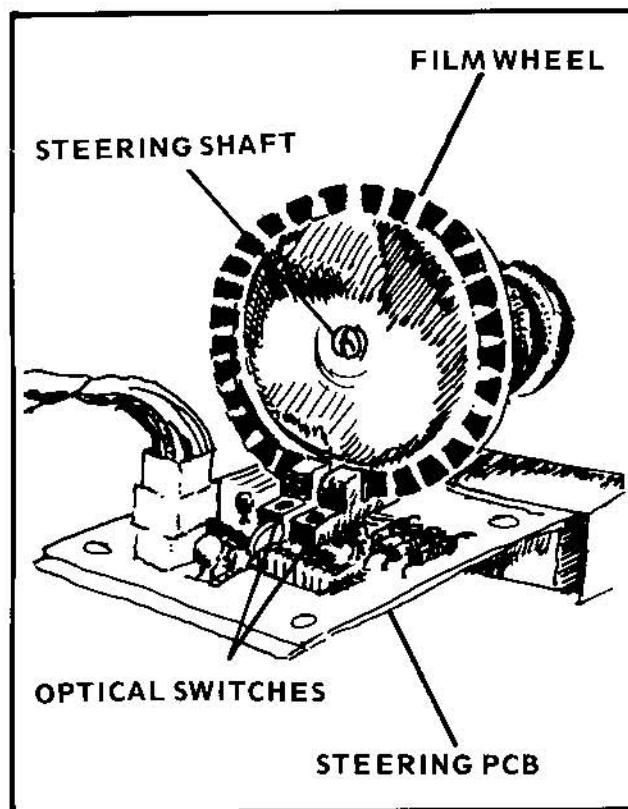

Figure 4-3 Steering Wheel Film Set-up and Adjustment
- If the steering wheel film (Figure 4-3) is replaced or removed, loosen the mounting screw at the hub and adjust the position of the wheel by centering the wheel so that the black and clear slits are set.
- Adjust the board so that the film wheel fits dead center between the two optical switches as illustrated in Figure 4-3.